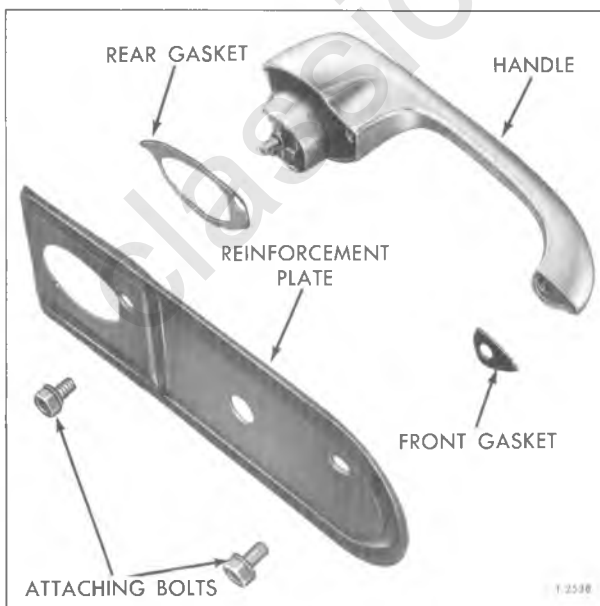

Figure 11—Door Handle Installation
2. Roll door glass to top, then through access opening, using a 7/16" wrench, remove two bolts which attach door handle to door outer panel. Remove handle and handle gaskets (fig. 11).